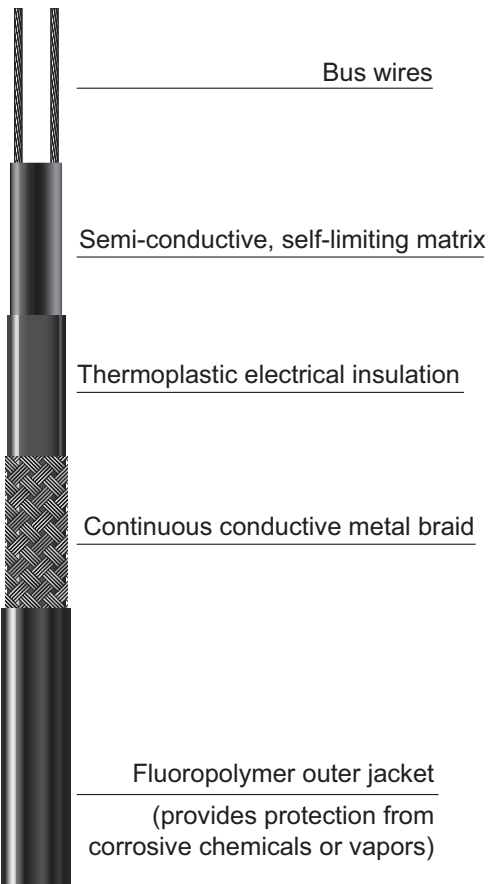

Figure 1-3: Self-regulating heating cable
- 2. Heating cable** — The self-regulating heating cable has a nominal output of 17 W/m (watts per meter) or 5 W/ft. (watts per feet) and supply voltage of 240 VAC (see **Figure 1-3** on **page 4**).
- 5. Polyethylene (PE) casing** — The PE casings are made of corrugated high-density polyethylene (HDPE). Corrugation makes the casing stiff, but flexible.